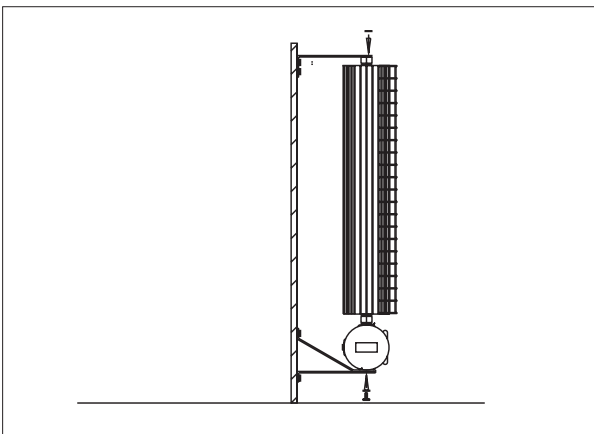
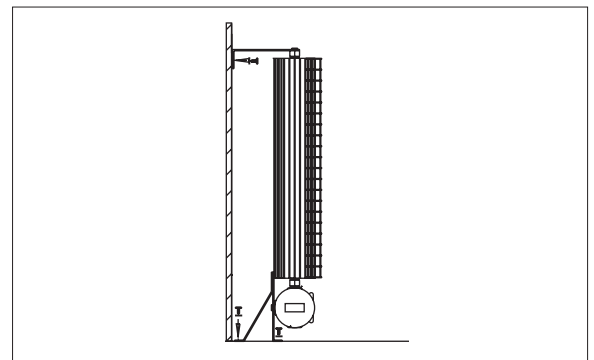

Figure 4 – Attach heater to mounting brackets
Figure 7 – Attach heater to floor and wall
Step 3: Secure bottom of heater to wall mounting brackets with supplied M6 x 1.0 hex bolts and lock washers (Figure 4).
Step 3: Lift top of unit and position heater vertically against the wall. Secure stabilizing and floor mounting brackets to the mounting surfaces (Figure 7, page 4).
To ensure safe operation, heater must be installed, as shown in Figure 4 and Figure 7.